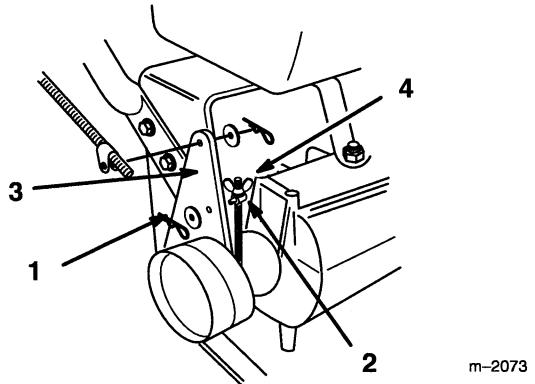

Figure 26
3. To adjust the brake remove the cotter pin and washer from the brake lever (Fig. 26).
4. Rotate the trunnion so it smoothly slides into brake lever (Fig. 26). Tighten wing nut.
5. Secure trunnion to brake lever with washer and cotter pin (Fig. 26).